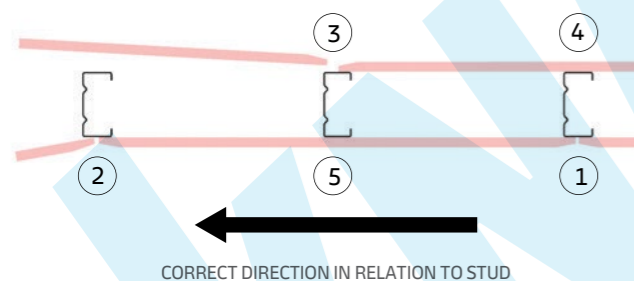

Figure E4: Correct Fastening Sequence
When installing the first side, screw-fasten the plasterboard sheets to studs at edges only, as illustrated in Figure E4 (positions 1 and 2). Then, on the second side, fasten the edge (position 3) followed by intermediate studs (position 4). Return to the first side and fasten sheets to previously unattached studs (position 5).
- Fasten plasterboard sheets to steel framing with appropriate screws as outlined in General Information section. Place screws 10mm-16mm from sheet ends and edges UNO. Do not fasten plasterboard to top and bottom tracks (UNO) in fire rated systems UNO. Sheets should be installed by advancing in the direction of the stud web (refer Figures E4 and E5).